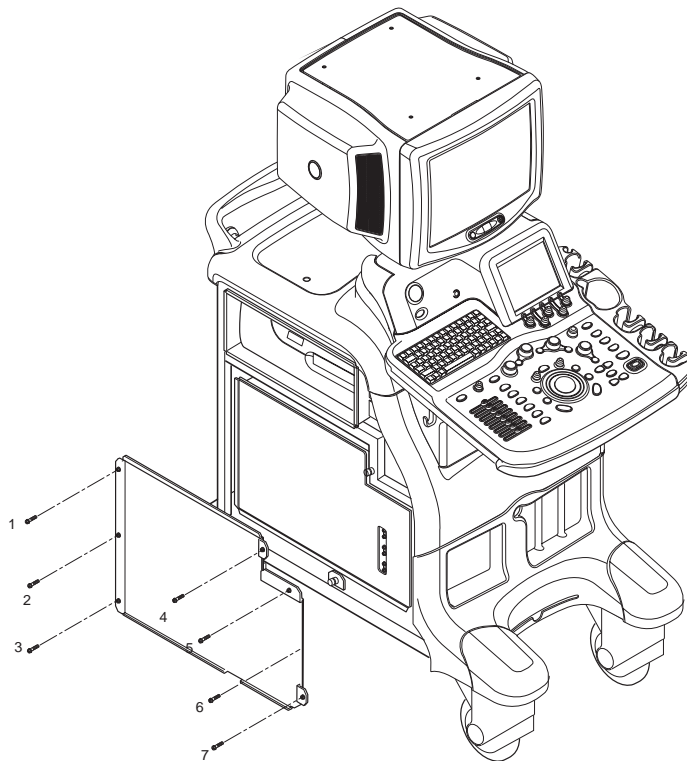

Figure 8-66 Removing the EMI Cover L
- 3.) Remove the EMI Cover L. Refer to Figure 8-66.